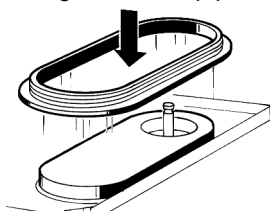

figure 7
- 4 Fit the bowl gasket to the evaporator. Note: the largest brim of the gasket must face against the drip plate (see figure 7).